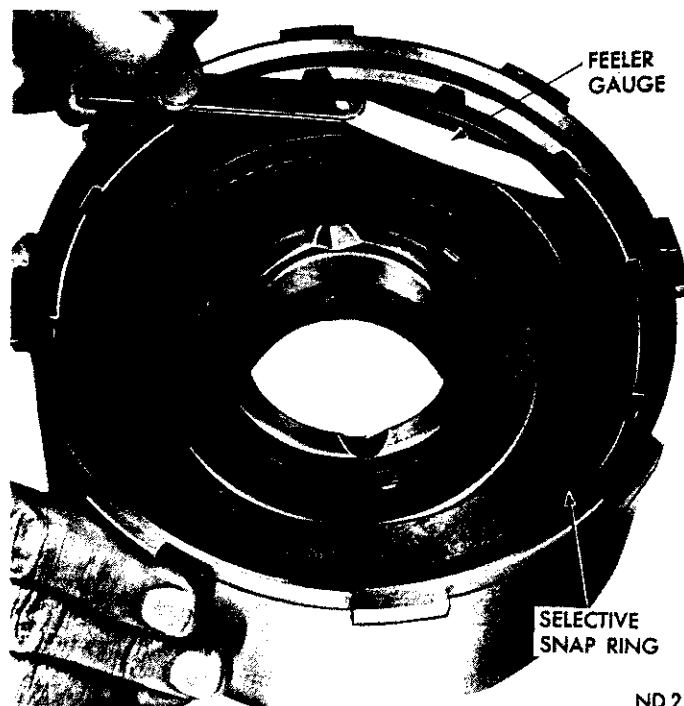

Fig. 57—Measuring Front Clutch Plate Clearance
(5) With front clutch completely assembled, insert a feeler gauge between pressure plate and snap ring (Fig. 57). The clearance should be .056 to .104 inch for the four plate clutch, and .042 to .087 inch for the three plate clutch. If not, install a snap ring of proper thickness to obtain specified clearance. Snap rings are the same as those used in rear clutch and are available in .060-.062; .068-.070 and .076-.078 inch thickness.
(5) With front clutch completely assembled, push downward on pressure plate and insert a feeler gauge between pressure plate and snap ring (Fig. 57). The clearance should be within limits given in the chart. If not, install a snap ring of proper thickness to obtain specified clearance.